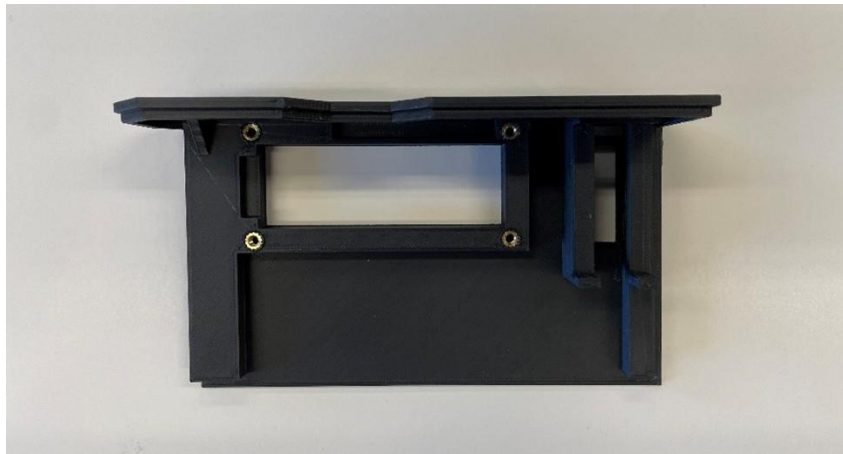

Figure 1.3- Heat inserts in place.
2) Install heat inserts with a hot soldering iron (Figure 1.3).